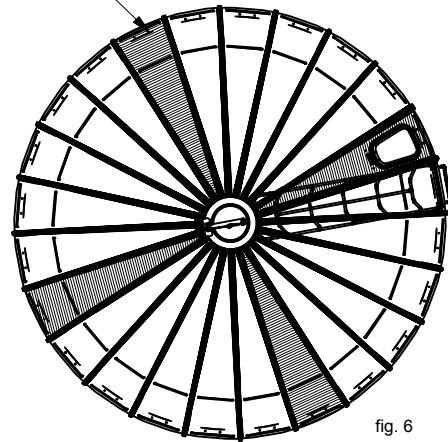

fig. 6
3. For best results in erecting the roof, first secure the roof flange on center support, then divide roof area in four equal sections and install one roof sheet in each section (shown in Fig. 6) using 1" (25mm) bolts, flat washers, plastic inserts, foam closures and hex nuts to fasten sheets to roof rim; 1" (25mm) bolts are also used for roof flange assembly.